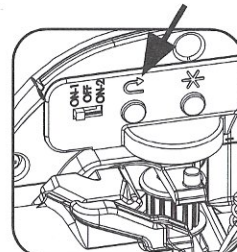
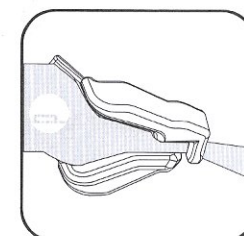

Figure 10
Figure 12
- C. The Sleeve must be woven into the bottom portion of the plastic handle (Figure 12).
10. Turn 'ON' the dispenser by simply placing the switch to 'ON - 1' if infrared (IR) is required or 'ON - 2' if IR is NOT required.
11. LOW REFILL Activation Process - To activate the counting of sleeves function, Push Down the lever and release. As the sleeve is advancing press and release the 'ARROW' quickly. The GREEN LED will blink 3X to signify NEW Count. (Fig. 10)